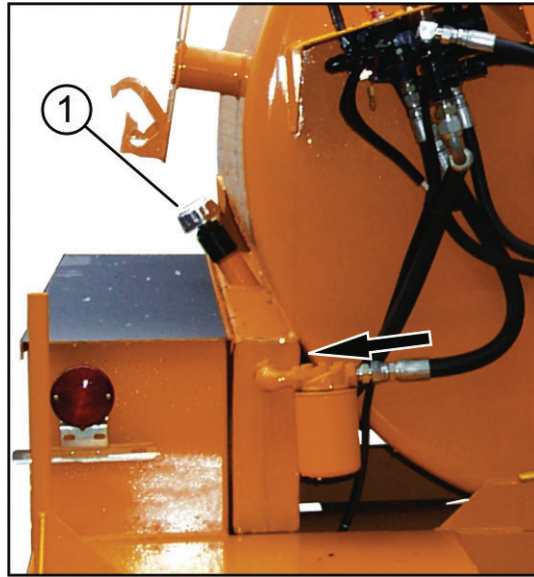

Figure 5-6
1. Check the hydraulic oil level by turning the hydraulic tank filler tube cap (1, Figure 5-6) counterclockwise. Always check the oil level when the machine is cool, which depressurizes the hydraulic system.
3. Add fresh, clean hydraulic oil through the filler tube until the oil is approximately 1.5 inches (38.1 mm) below the top of the tank. (For informational purposes, the black arrow in Figure 5-6 indicates the flow of hydraulic oil through the machine's system.)
5. Remove the hydraulic filler tube cap (1, Figure 5-6) and fill the hydraulic tank with clean hydraulic oil to within 1.5 inches (38.1 mm) of the top of the tank. It is recommended that the hydraulic oil should be 5W-30, multi-viscosity, low foam oil.